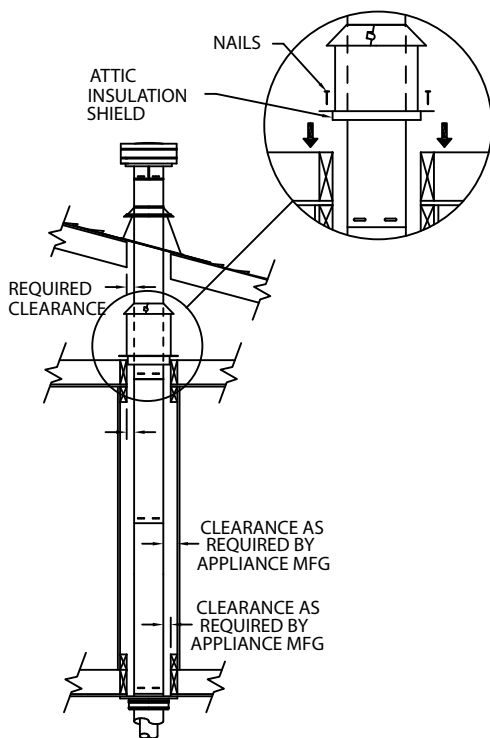

Figure 19
- (1) For multi-story vertical installations, a Ceiling Firestop is required at the second floor, and any subsequent floors (**Fig. 19**). Refer to **Table 1, page 8**. Cut and frame a square opening for installation of the Ceiling Firestop.
- (2) If Vent passes through any occupied areas above the first floor, including closets and storage spaces, it must be enclosed. The enclosure may be framed and sheetrocked with standard construction materials, but required clearances to combustibles must be maintained. Consult the appliance manufacturer's installation instructions for the minimum allowable clearance between the outside of
the vent pipe, and the combustible surfaces of the enclosure. Do not fill required air spaces with insulation. **(3)** If venting system passes through an attic space the Attic Insulation Shield or a chase enclosure must be installed to prevent contact between Pipe Sections and the insulation or other debris. For the Attic Insulation Shield, nail the base to floor of attic and adjust shield for appropriate insulation level, then attach the collar at the top of assembly (**Fig. 19**). For a chase enclosure, it may be constructed out of sheetrock or similar building materials and framed around the support box or the pipe, maintaining the clearance to combustibles as required by the appliance manufacturer. For vaulted ceilings a chase enclosure must be constructed as the Attic Insulation Shield can not be installed.